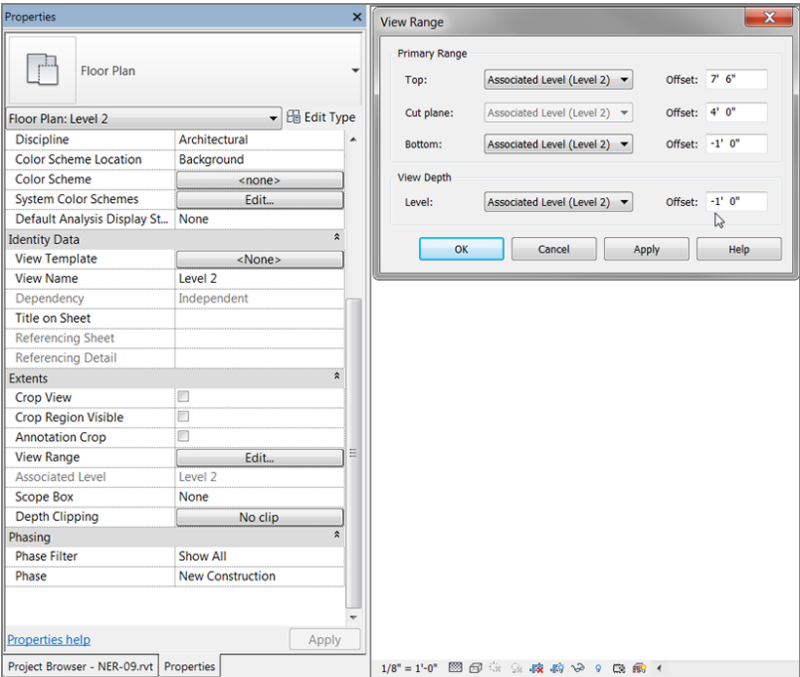

FIGURE 8.33 : Setting the view range so you can see below the level
- 6. In the Properties dialog, scroll down to the View Range row and click the Edit button (see Figure 8.33).
- 8. For View Depth, set Level Offset to -1'-0" (-300mm), as shown in Figure 8.33.